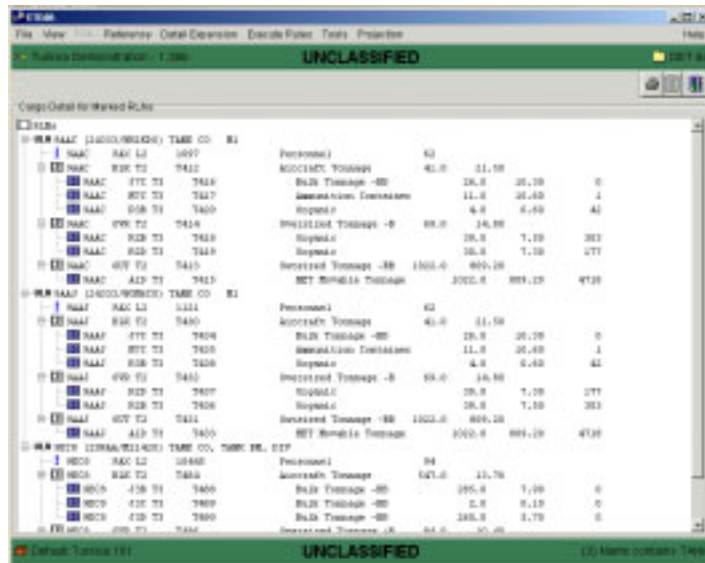

Figure 5.200 ETEdit (Main) Window (View>Cargo Detail)
- On the ETEdit (main) window, on the View menu, click Cargo Detail. The cargo details of the selected RLNs are displayed (Figure 5.200). In this case, the lowest level is level 3.